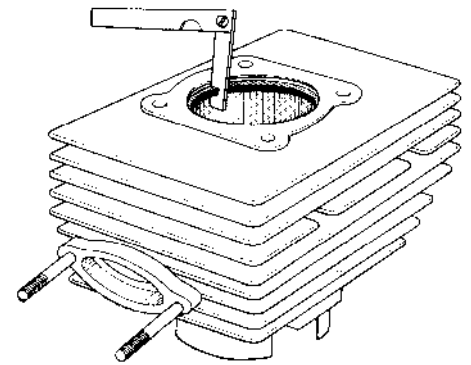

Fig. 47 Measuring piston ring gaps
1. Measure piston ring gaps as shown in Fig. 47.